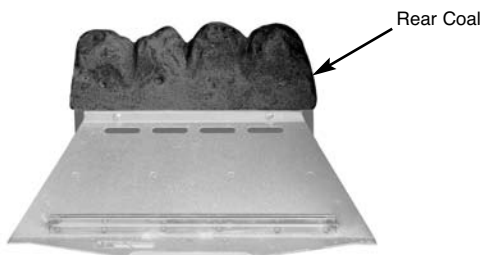

Fig. 28
1. Place the rear coal on the rear coal retainer ledge in a central position (Fig. 28).